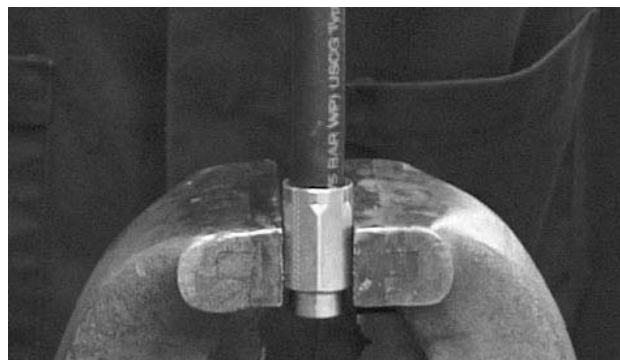

Figure 9-26. Thread Whip Hose into Hose Socket.
6. With its larger internal bore (hose end) facing up, clamp the Hose Socket (17) in a vise. Refer to Figure 9-26.